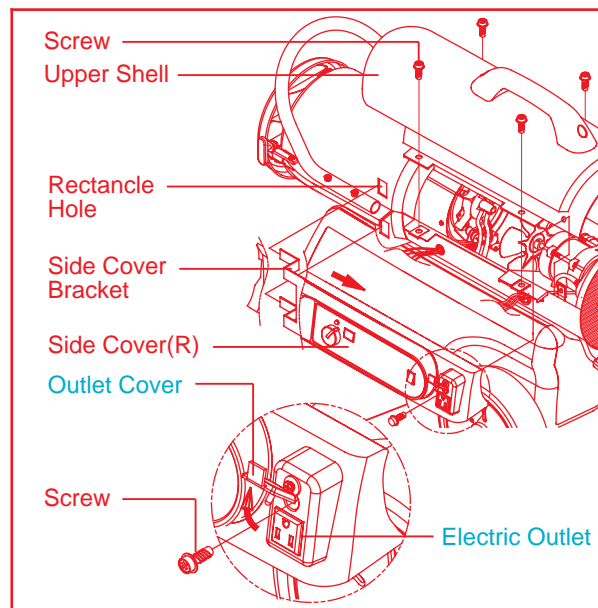

Figure 14. Upper Shell Removal.
-Uncover Outlet Cover and Remove Screw that secure Side Cover as shown in Figure 14.
-Side Cover(L) in opposite of Side Cover(R) Separates by same method.
-Remove 4 Screws along each side of heater using medium phillips screwdriver. These Screws attach Upper Rear and Lower shells together. (See Figure 14)
-Remove Upper Shell.(See Figure 14)